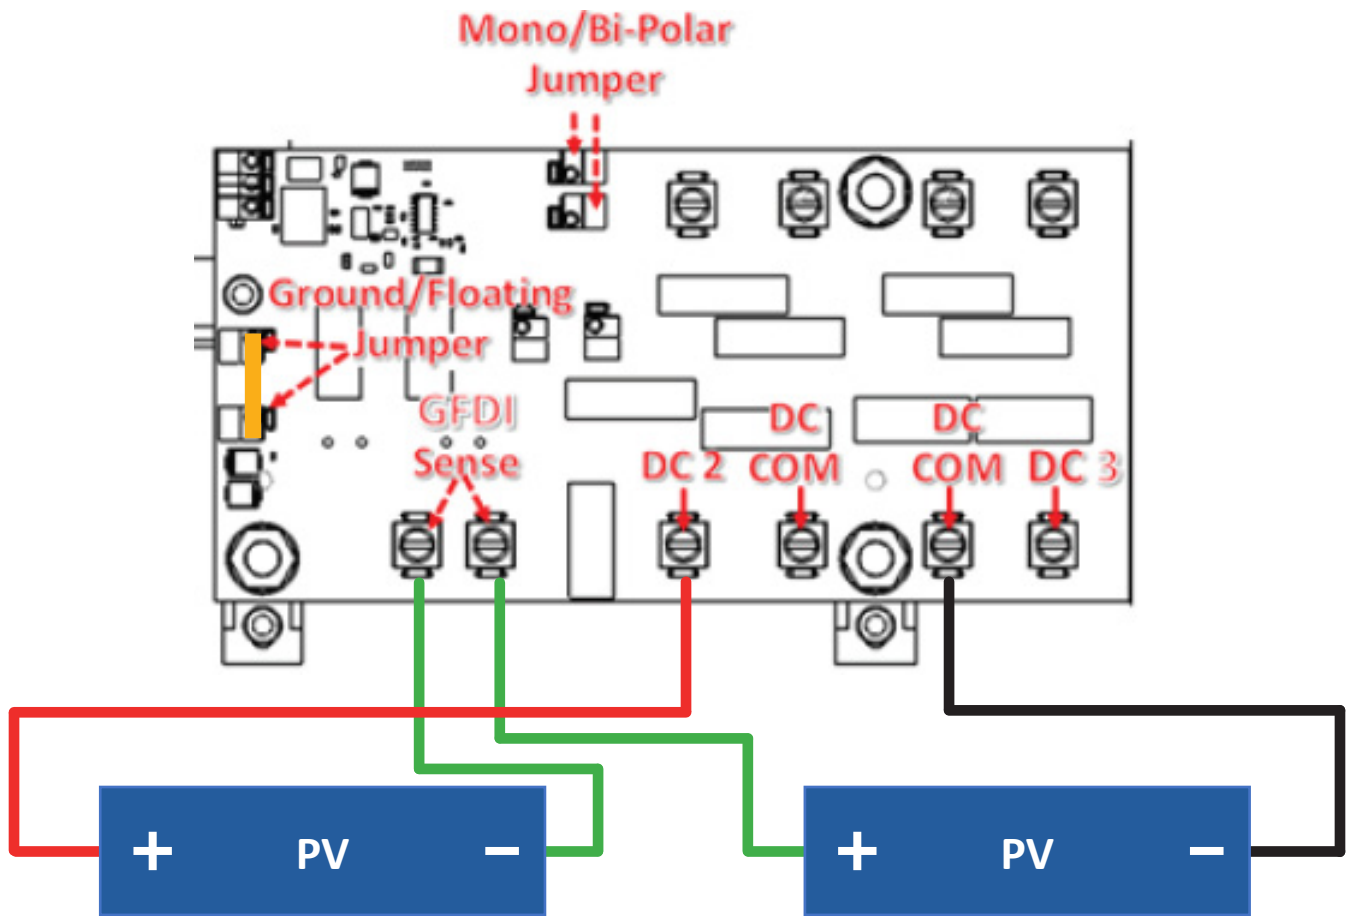

Figure 5. 4-Wire Bipolar
5. 4-Wire ground referenced Bipolar - Figure 5